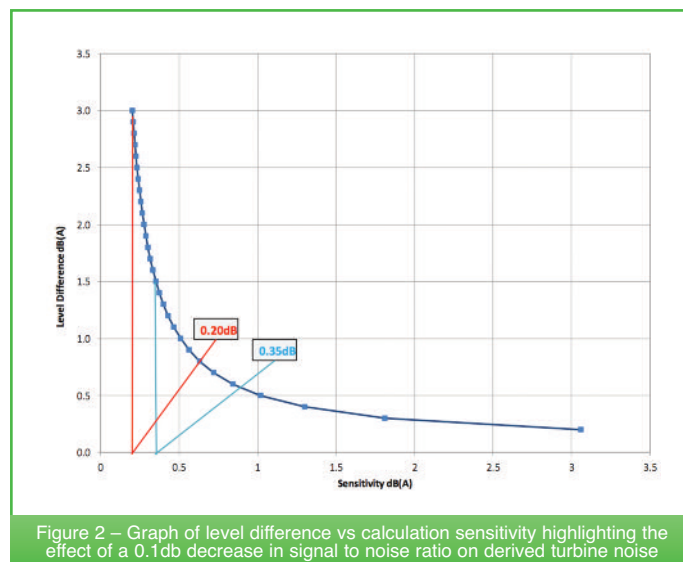

Figure 2 – Graph of level difference vs calculation sensitivity highlighting the effect of a 0.1db decrease in signal to noise ratio on derived turbine noise
The above discussion requires more consideration of the appropriate signal to noise ratio liable to result in useful results. To evaluate a likely useful range of signal to noise ratios, it is instructive to look at what happens if the measured turbine plus background noise level is just 0.1dB(A) lower, reducing the level difference by 0.1dB(A). The effect is illustrated by figure 2.
Firstly, as figure 2 suggests, it may be pragmatic to accept signal to noise ratios of around 1.5dB(A) as these do not significantly increase the variation in the turbine noise levels derived. However, level differences of 1dB(A) or less would seem to be subject to much more significant error.